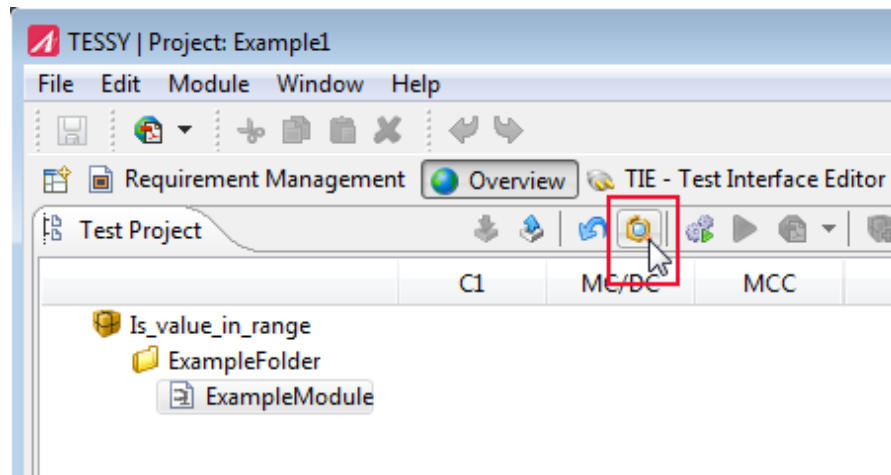

Figure 5.8: Analyzing the module, that is the C-source file.
- In the Test Project view above click on  (Analyze Module) to start the module analysis (see figure 5.8).